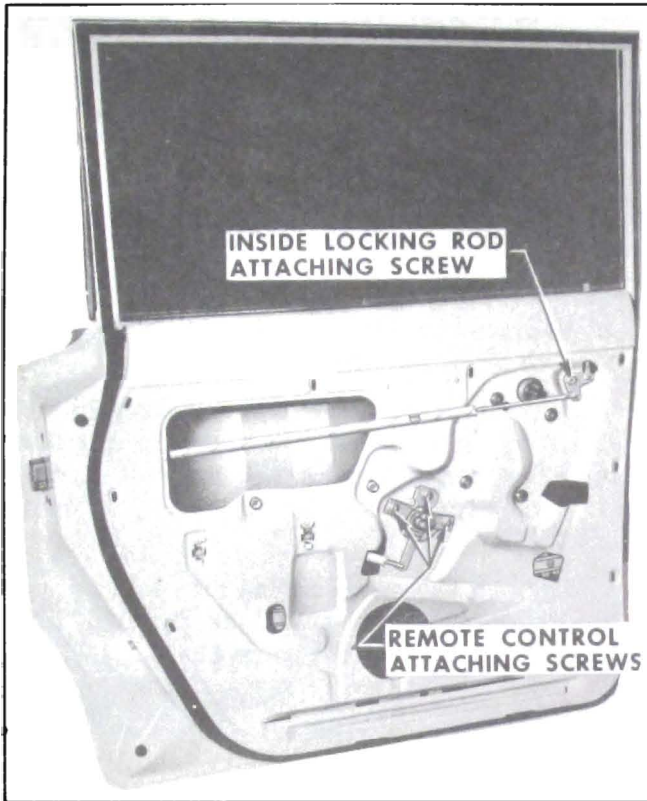

Figure 13-51—Rear Door Remote Control and Inside Locking Rod Attachment
1. Remove door trim assembly and detach inner panel water deflector sufficiently to gain access to remote control attaching screws. See Figure 13-51.
3. Remove inside locking rod assembly attaching screw and washer and detach connecting rod from clip on inner panel. See Figure 13-51.